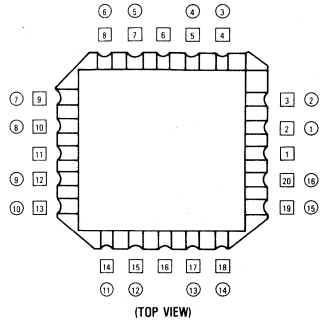

Figure 2: 16-Lead Pin-out for 20 Terminal Chip Carrier
2. Devices requiring 16 connections in a 20 pad chip carrier, see Figure 2.